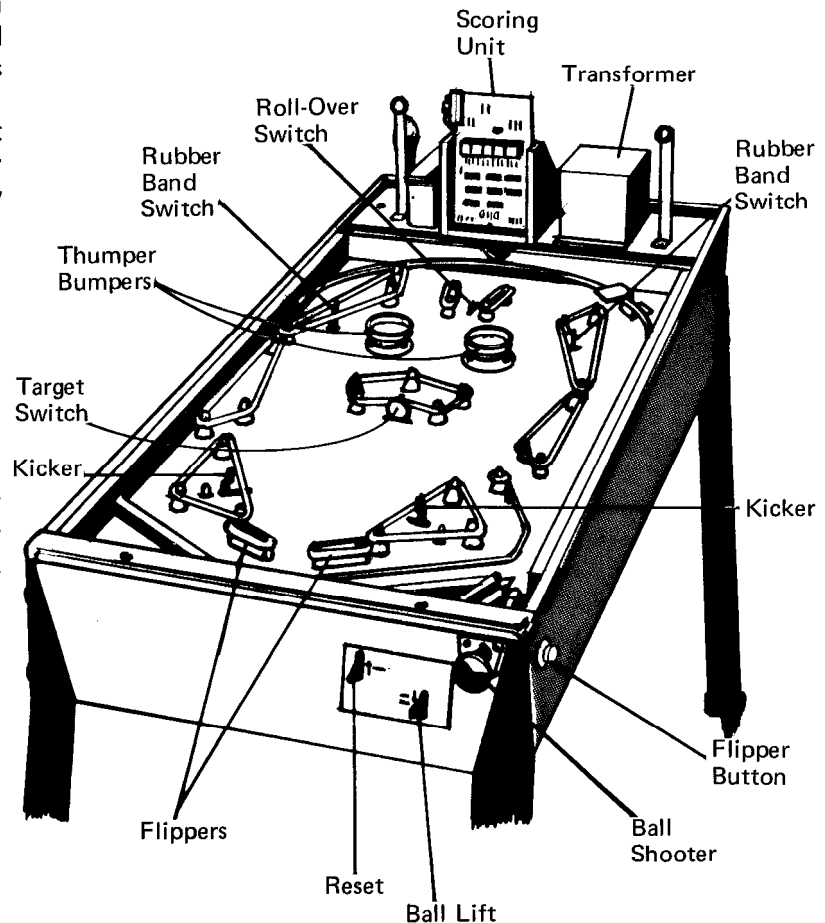

FIGURE 1
Basically, this Home Pinball Game is a combination of **levers, switches, lights, and solenoids** that operate on low voltage (6 volts or 28 volts). The game has three main operating sections: (1) the **Score Unit Assembly**, (2) the **Playfield**, and (3) **Player Controls**. These sections are explained below and refer to **Figure 1**.
The Score Unit Assembly receives power from the **transformer**, which reduces the high incoming voltage from your home. The transformer is protected by **resettable circuit breakers** which help prevent transformer overload. The transformer also sends out low voltage power to the playfield that operates all the switches and solenoids (28 volts) and all lights (6 volts). The ball rolling on the playfield will close various switches that send signals to the score unit through wires. These wires are combined into what is called an **electrical harness**. The **playfield wires** and the **score unit assembly wires** are connected by an **electrical connector**. (See **Figure 1, Page 10**)